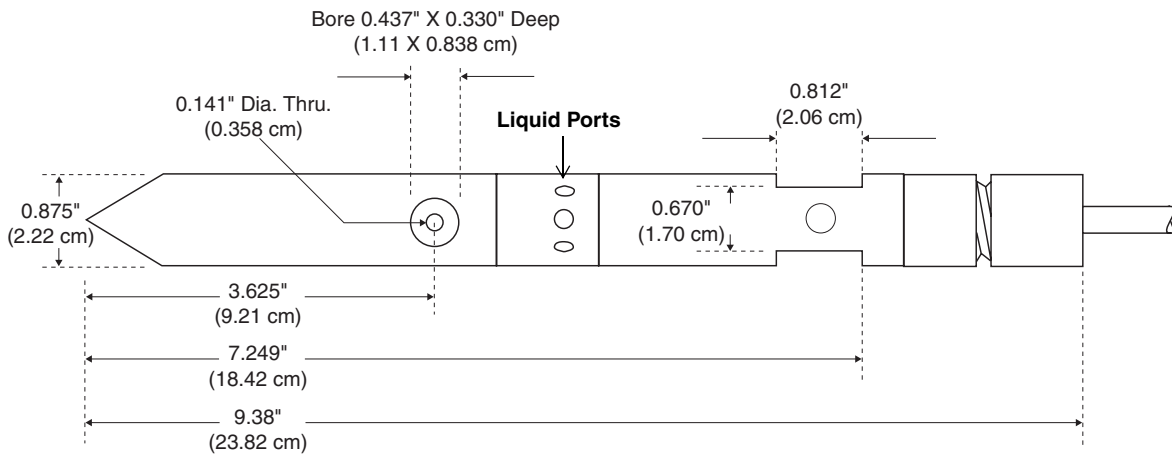

Figure 4-1 Submerged Probe Dimensions
- 4.4.4 Weirs and Flumes** The 4220 Flow Meter is generally used with some type of primary measuring device, such as a weir or flume. The placement of the submerged probe in the primary device is determined by the type of primary device. You can use one of Isco's mounting rings to install the probe in many weirs and flumes. If the mounting ring are not suitable, you must build your own mounting hardware. Figure 4-1 shows the dimensions of the probe for your reference when building your own hardware. Figure 4-8 shows the probe installed in several primary devices.